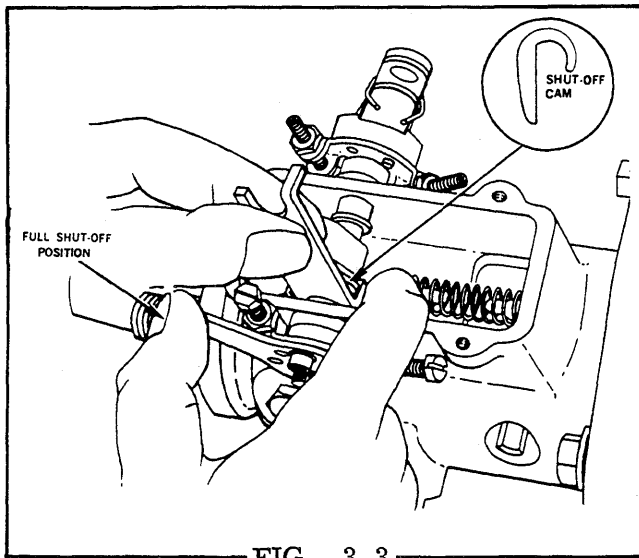

FIG. 3.3
STEP 3 Remove the shut-off cam by rotating the shut-off lever to the full run (W.O.T.) position. Place tool No. 20992, with tab beneath the shorter leg of the shut-off shaft and pry gently, sliding the cam off the shaft assembly (Fig. 3.3). Discard the shut-off cam.